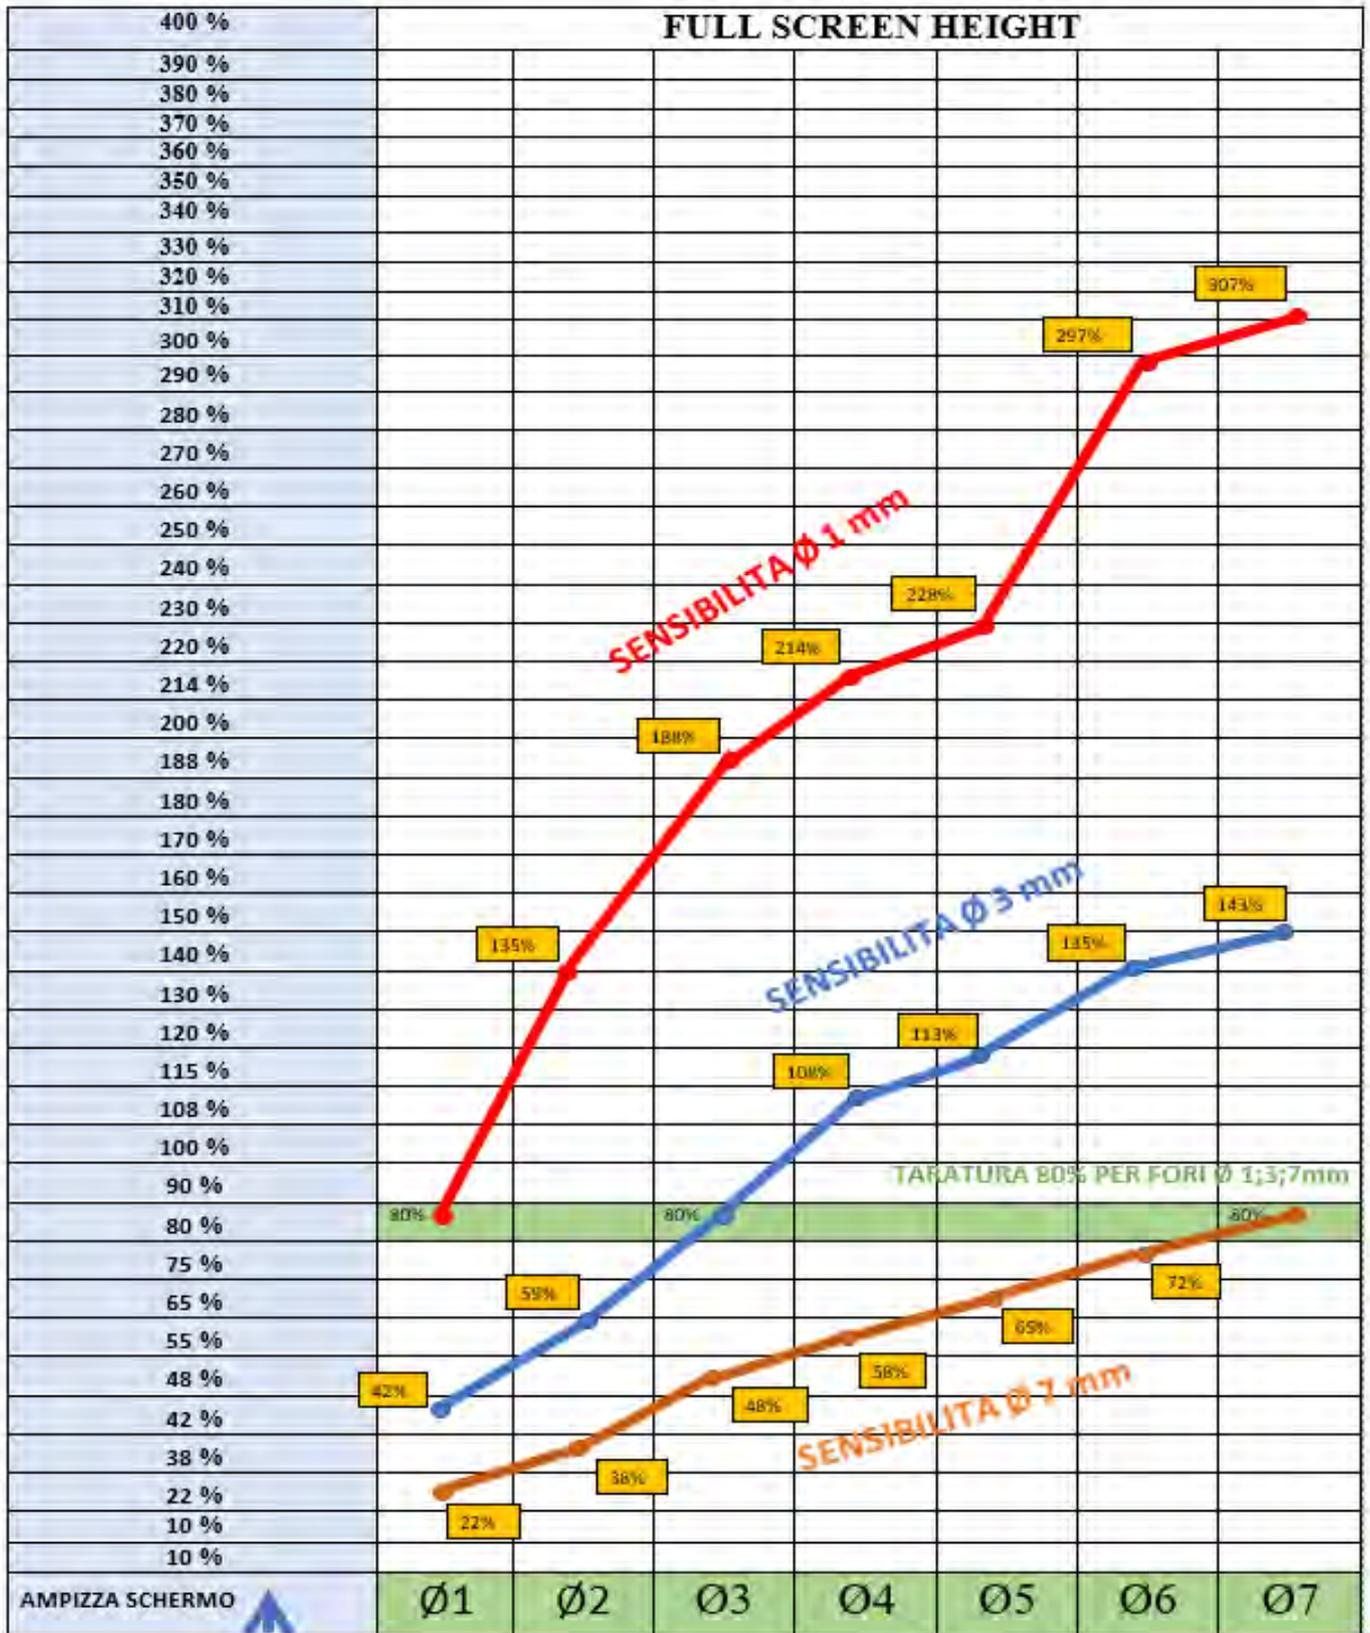

Fig.7
**RESULTS:** The best results have been achieved with sensitivity calibration on 1mm hole diameter as represented in diagrams of figure 7 and table 1. The new software with 400% FSH (FULL SCREEN HIGHT) allow to distinguish two holes differing of 1 mm.